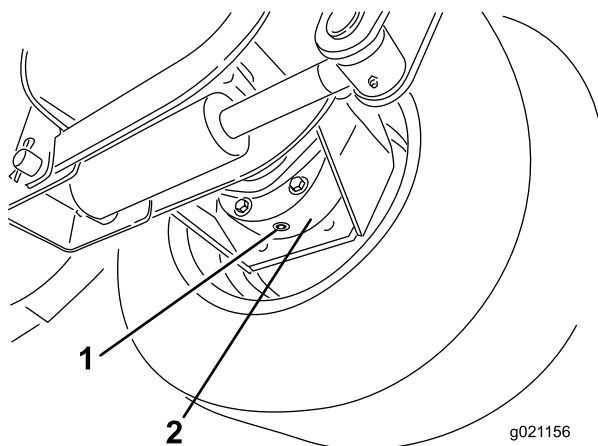

Figure 75
3. Place a drain pan under the brake housing, remove the drain plug and allow the oil to drain (Figure 75).